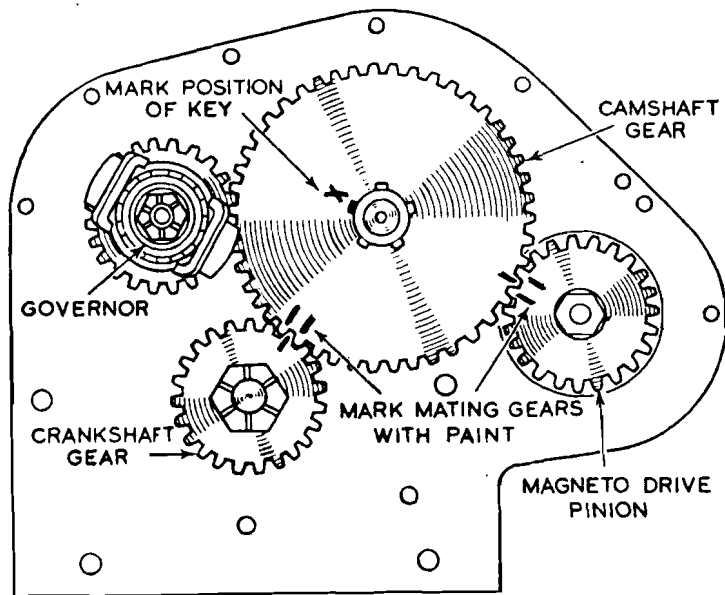

Fig. 1.
2. Remove the set screws holding the timing cover to the crankcase. Draw out the split pins and slacken the nuts holding the crankshaft and camshaft gear. Mark with paint the mating gears and the engaged keyway in the camshaft gear. This ensures exact replacement, on reassembly. (See Fig. 1).